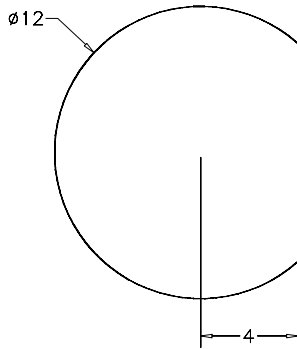

Figure 27-60 Sketch for the base of the model
1. Start a new 3D template drawing file and then draw the sketch for the base of the model in the top view, as shown in Figure 27-60. Choose **Home > Draw > Region** from the **Ribbon** to convert the model into a region.